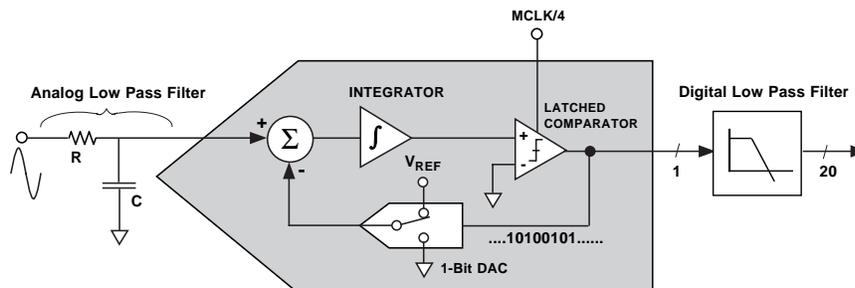
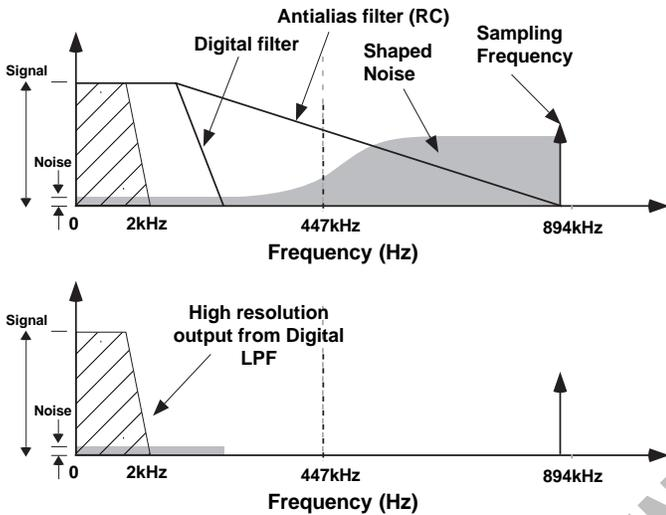
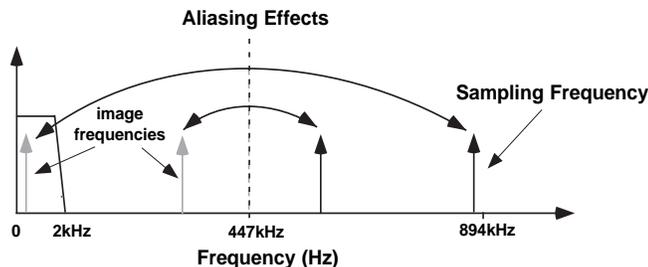

Figure 18– First Order Sigma-Delta (Σ - Δ) ADC
Figure 19— Noise reduction due to Oversampling & Noise shaping in the analog modulator
Figure 20—ADC and signal processing in Channel 1
The analog-to-digital conversion in the AD7756 is carried out using two second order sigma-delta ADCs. The block diagram in Figure 18 shows a first order (for simplicity) sigma-delta ADC. The converter is made up of two parts, first the sigma-delta modulator and secondly the digital low pass filter.
The sigma-delta converter uses two techniques to achieve high resolution from what is essentially a 1-bit conversion technique. The first is over-sampling. By over sampling we mean that the signal is sampled at a rate (frequency) which is many times higher than the bandwidth of interest. For example the sampling rate in the AD7756 is CLKIN/4 (894kHz) and the band of interest is 40Hz to 2kHz. Oversampling has the effect of spreading the quantization noise (noise due to sampling) over a wider bandwidth. With the noise spread more thinly over a wider bandwidth, the quantization noise in the band of interest is lowered—see Figure 19. However oversampling alone is not an efficient enough method to improve the signal to noise ratio (SNR) in the band of interest. For example, an oversampling ratio of 4 is required just to increase the SNR by only 6dB (1-Bit). To keep the oversampling ratio at a reasonable level, it is possible to shape the quantization noise so that the majority of the noise lies at the higher frequencies. This is what happens in the sigma-delta modulator, the noise is shaped by the integrator which has a high pass type response for the quantization noise. The result is that most of the noise is at the higher frequencies where it can be removed by the digital low pass filter. This noise shaping is also shown in Figure 19.
Figure 18 also shows an analog low pass filter (RC) on the input to the modulator. This filter is present to prevent aliasing. Aliasing is an artifact of all sampled systems. Basically it means that frequency components in the input signal to the ADC which are higher than half the sampling rate of the ADC will appear in the sampled signal at a frequency below half the sampling rate. Figure 20 illustrates the effect, frequency components (arrows shown in black) above half the sampling frequency (also known as the Nyquist frequency, i.e., 447kHz) get imaged or folded back down below 447kHz (arrows shown in grey). This will happen with all ADCs no matter what the architecture. In the example shown it can be seen that only frequencies near the sampling frequency, i.e., 894kHz, will move into the band of interest for metering, i.e., 40Hz - 2kHz. This fact will allow us to use a very simple LPF (Low Pass Filter) to attenuate these high frequencies (near 900kHz) and so prevent distortion in the band of interest. A simple RC filter (single pole) with a corner frequency of 10kHz will produce an attenuation of approximately 40dBs at 894kHz—see Figure 19. This is sufficient to eliminate the effects of aliasing.